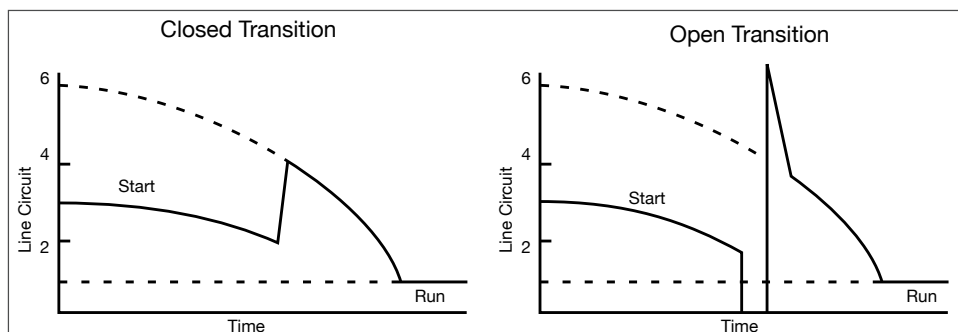

Figure 4: Closed Transition vs. Open Transition Starters
**Reduced-voltage starters** – Most reduced-voltage starters connect the load to the power source in two or more steps. The starters may be either “open”- or “closed”-transition starters, but only closed-transition, reduced-voltage starters are helpful when running on generator power. As seen in (Figure 4), open-transition starters create an unacceptable spike in kVA demand when switching between steps occurs.